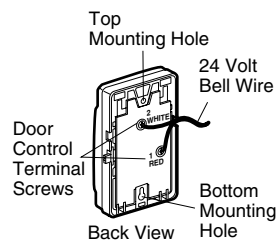

Figure 3
- Strip 7/16" of insulation from one end of bell wire and connect to the two screw terminals on back of door control by color: white wire to 2 and white/red wire to the 1 (Figure 3).